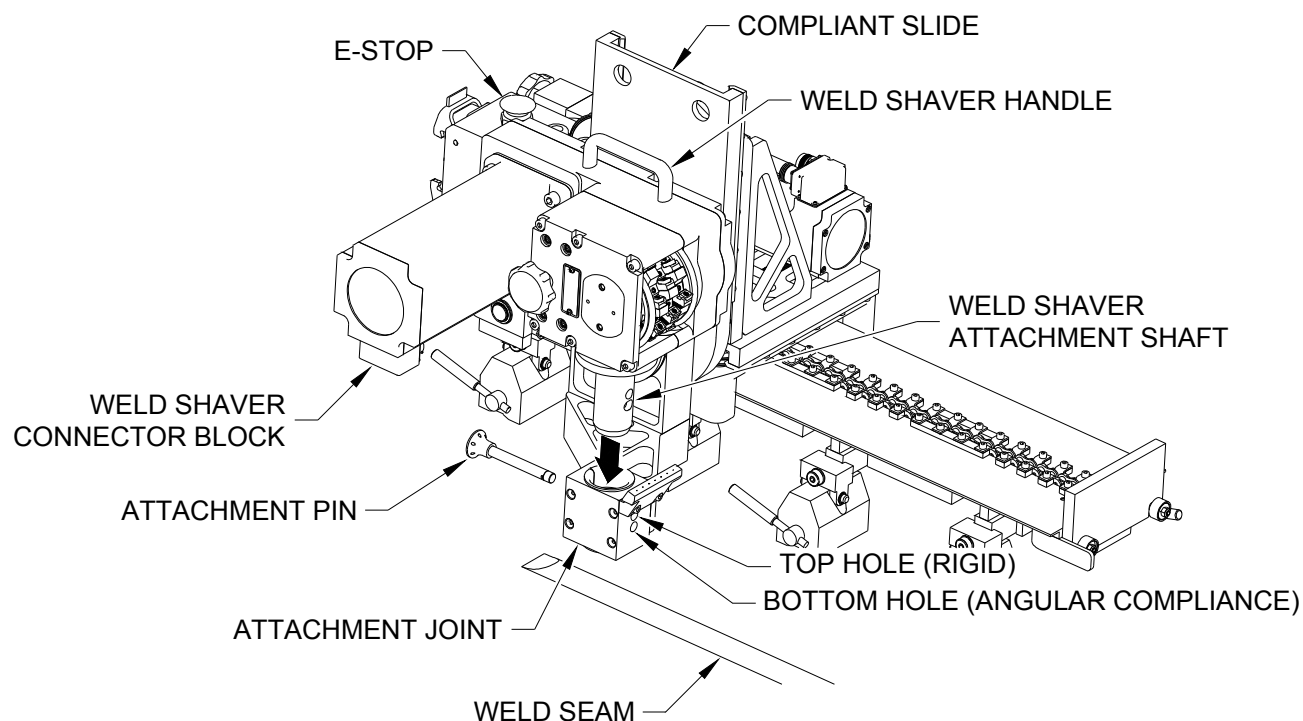

Figure 7: Weld Shaver Installation
3. Then rotate the Attachment Arm to the position shown in Figure 7 by pulling the Swivel Lock and rotating the Attachment Arm 90° clockwise. This is the Installation position.
5. The operator lifts the Weld Shaver (approx. 65 lbs., 30 kg) into position manually via the Weld Shaver Handle to insert the Weld Shaver Attachment Shaft into the Attachment Joint. See Figure 7.
16. The operator then rotates the Attachment Arm to the Installation position shown in Figure 7.